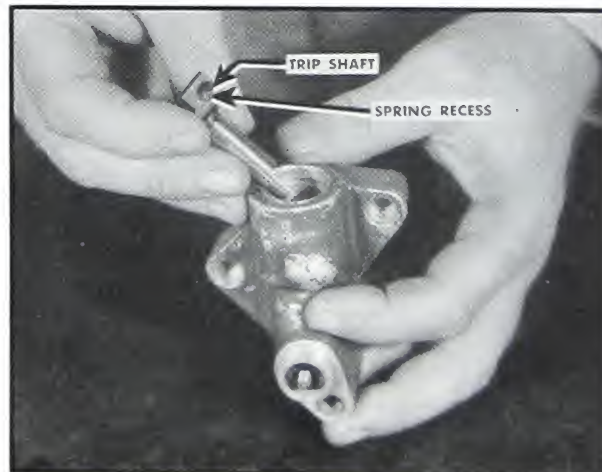

Fig. 5-260. Replace tripping shaft
7. Replace the tripping shaft by holding the valve assembly back so the shaft will engage the valve catch. Make sure the reset spring seats in the housing and shaft recesses. Fig. 5-260.